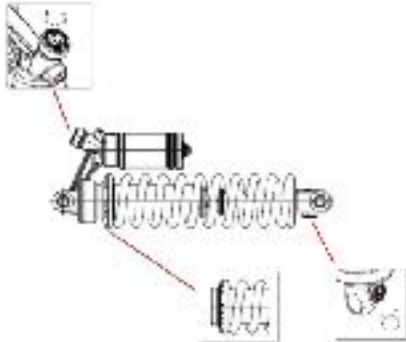

Fig 8
6.2.2 Tune rear absorber (see Fig 8)